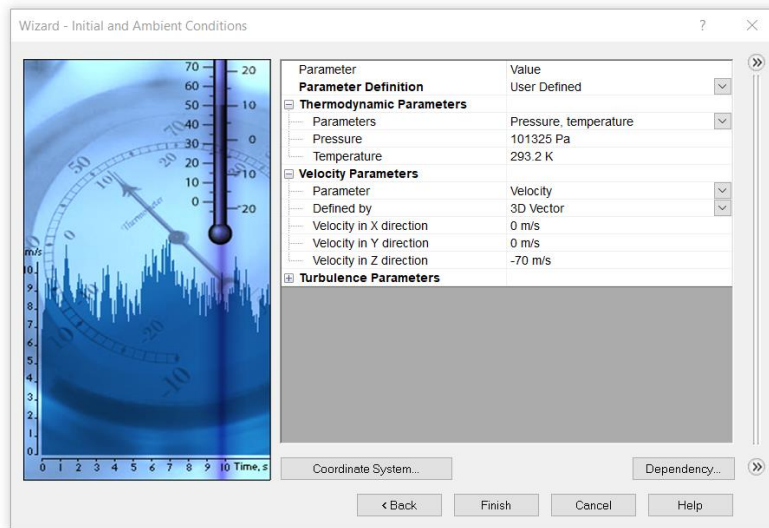

Figure 6: Assigning the values for air at a velocity in velocity parameters.
8. In the parameters, there is a velocity parameter and the air (wind) can flow in z direction at 70m/s. Then the mark it as -70 m/s in velocity in z directions. Which is shown in the figure 6